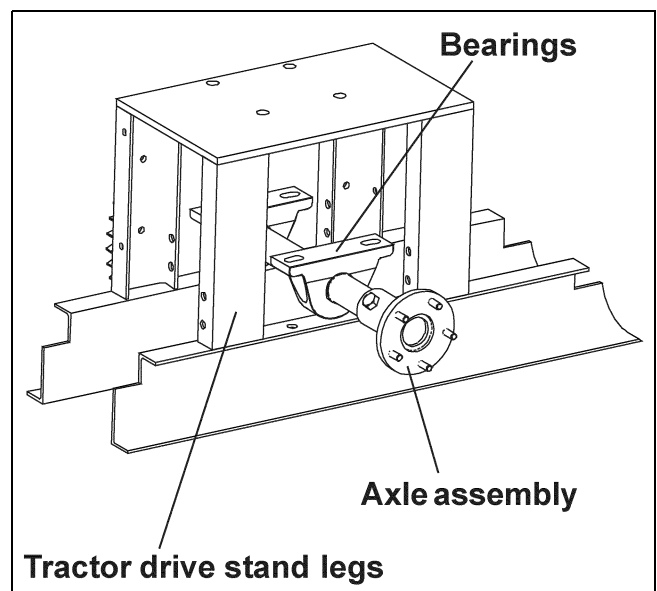

Figure 5J
- C. Slide the axle assembly between the legs of the tractor drive stand as shown in Figure 5J.
- D. Rotate the pillow block bearings until the bases are facing up. (See Figure 5J)